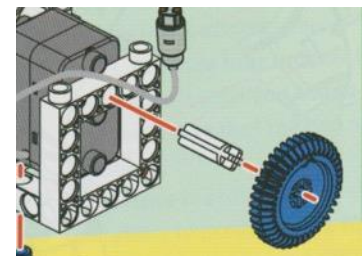

Figure 6: Gear Assembly Cont.
**Use Figure 6 for steps 15-16.**